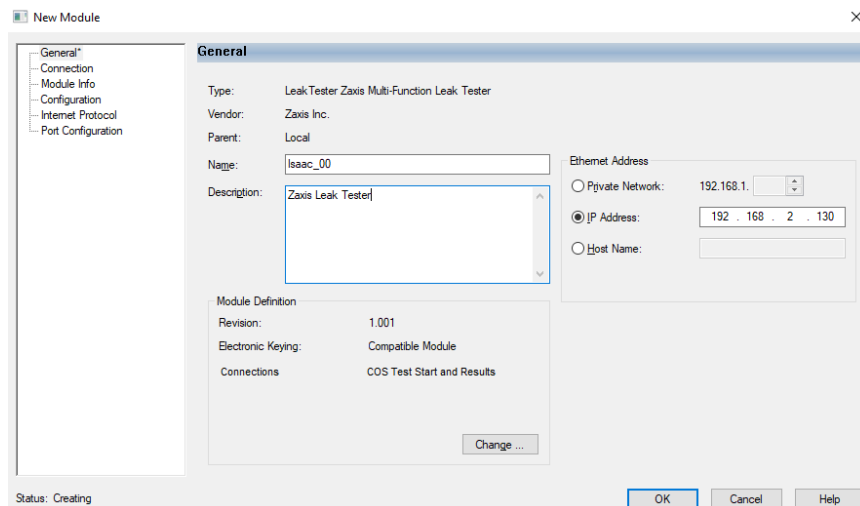

Figure 3 - New Zaxis Module
5. Click the Create button to create the Leak Tester module, which should display the following window, see Figure 3.